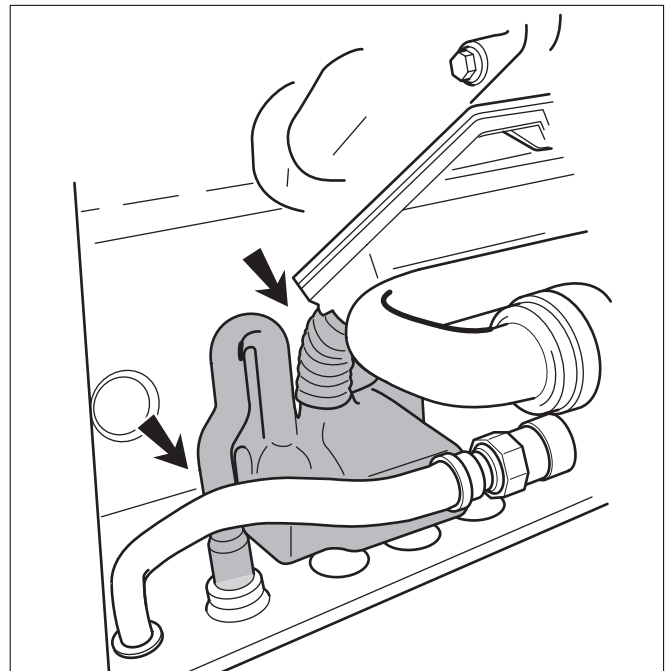

Fig. 26 Filling water into the condensate trap
- Remove the condensate trap (see fig. 26).